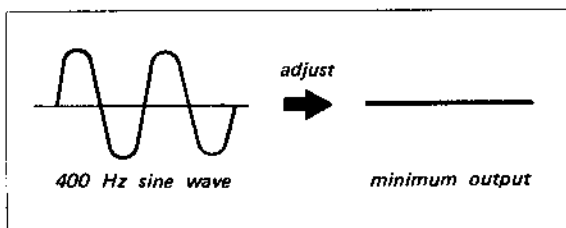

Fig. 3-14 Discriminator alignment output response
3. Turn the core of transformer FM IFT-E (pink) to obtain minimum output, as shown in Fig. 3-14.